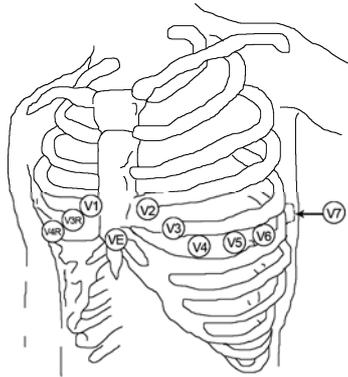

Fig. 9-2
For 5-lead set, attach the C (V) - electrode to one of the indicated positions as below Fig. 9-2: